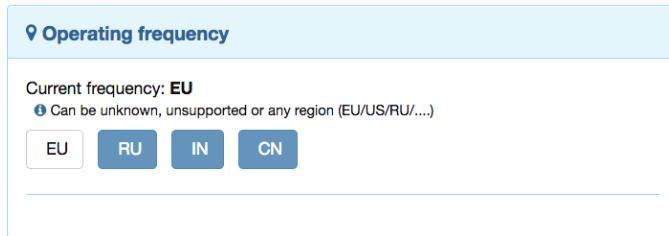

Figure 2.3: Frequency Change Option in Z-Wave Expert User Interface
1. If you use **Z-Wave Expert User Interface**, just choose the frontend on **Network > Management** as shown in the figure 2.3. For more information about this **Z-Wave Expert User Interface**, please refer to chapter 7.
1. If you use **Z-WAVE EXPERT USER INTERFACE**, just choose the frontend on  Management as shown in the figure. 2.3. For more information about this **Z-WAVE EXPERT USER INTERFACE**, please refer to Chapter 7.